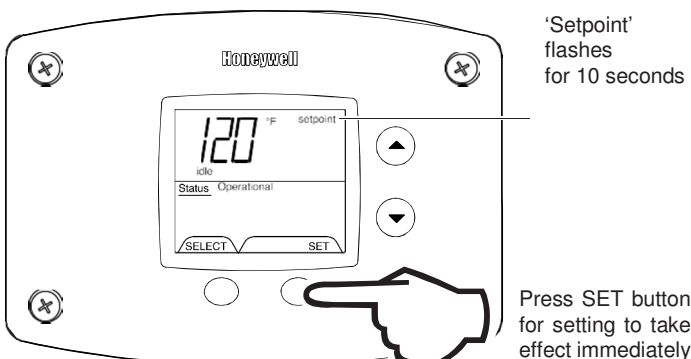

Figure 15
2. 'Setpoint' indicator begins flashing in the display after pressing 'Temperature Up' button (Fig. 15).